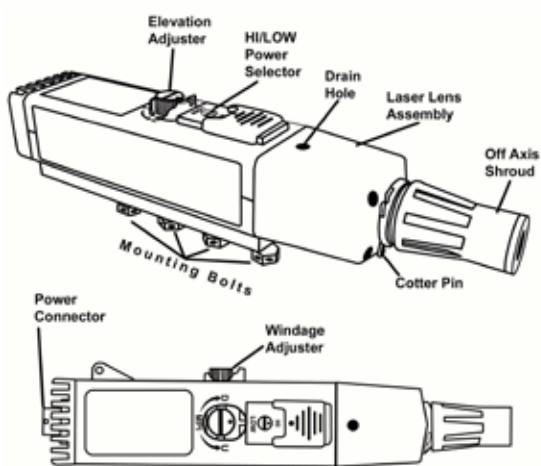
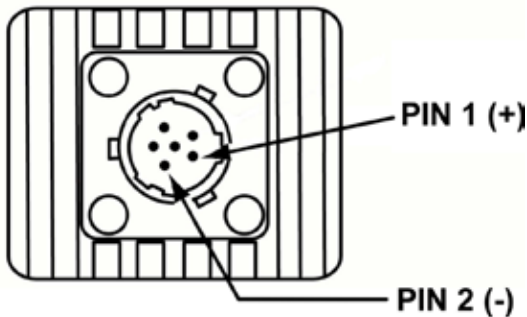

Figure 1-1. GCP-2C Cobra Flight Aimer Night Gunnery (FANG)
Figure 1-6. Pin Location
The purpose of this manual is to provide descriptive information, operating instructions and maintenance procedures for the GCP-2C Cobra Flight Aimer Night Gunnery (FANG). (Figure 1-1). The instructions will cover all variants of the GCP-2C and all accessories required to operate the system.
1.4.1 GCP-2C Cobra Flight Aimer Night Gunnery (FANG). (See Figure 1-1 GCP-2C Cobra Flight Aimer Night Gunnery)
1.4.1.1 Power Connector. A connector at the rear of the GCP-2C is used to power the infrared laser (See Figure 1-1). The laser is activated by applying power and deactivated by removing power. Figure 1-6 shows pin location and DC power polarity.
1.4.1.4 Laser Lens Assembly. The laser lens assembly consists of a lens that focuses the beam to 0.5 mR divergence and a sapphire optical window. The optical window may be exposed for cleaning by removing the protective shroud. The protective shroud is held in place by an O-ring seal and cotter pin, see Figure 1-1.
1.5.2.1 Power Connector. The connector (MIL-DTL-38999, MS27508E8B35P) at the rear of the GCP-2C is used to power the infrared laser (See Figure 1-1) Figure 1-6 shows pin location and DC power polarity.
- 2.1.2 Powering the System. To supply power to the GCP-2C, connect the unit to the direct current (DC) power source that furnishes 5 to 28 V at 120 mA. See Figure 1-6 for pin connections.